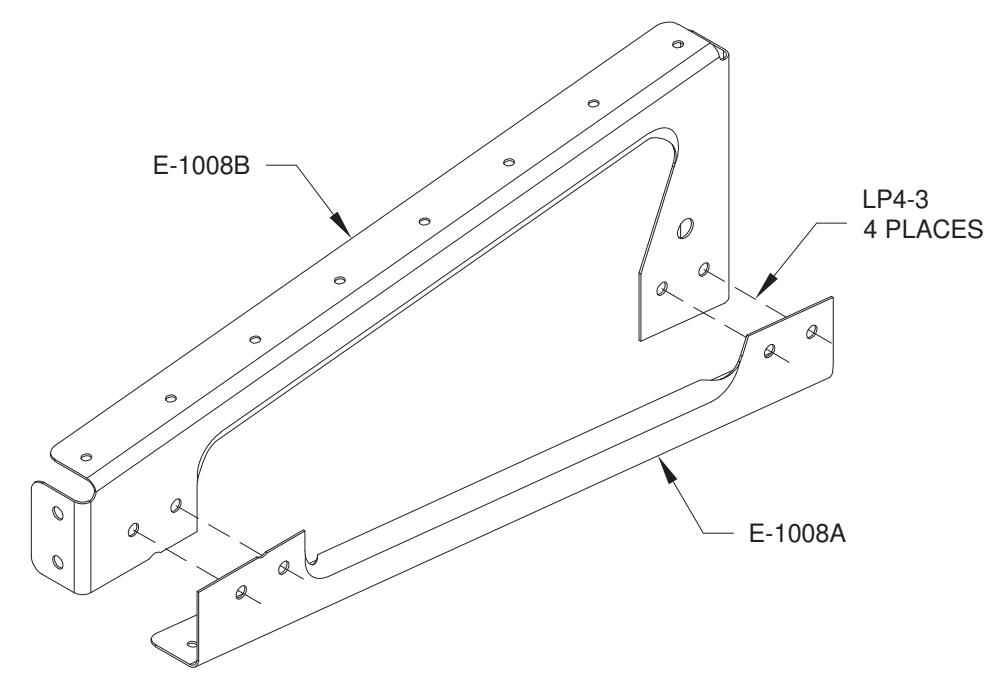
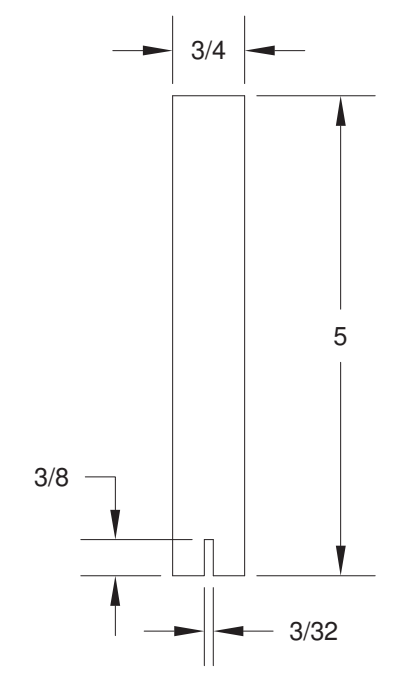

FIGURE 3: RIVETING THE RIB HALVES
FIGURE 4: SPACING TOOL
Step 4: Rivet the E-1008A&B Rib halves together, with blind rivets, through the four holes common to each rib set as shown in Figure 3. If you have very large hands you may find installing the aft two rivets in each rib set challenging. You can either enlist a helper that has smaller hands, or use tubes or pipes slipped on the rivet tool's handles to extend them. Occasionally the rivet doesn't fully set with one stroke of the handles. Because it is very difficult to reposition the tool when setting the aft two rivets, you can use a small tool made from .063 scrap, shown in Figure 4, as a spacer. To finish setting the rivet, release the handles, slip the tool between the rivet puller and the rivet's head, and finish squeezing.